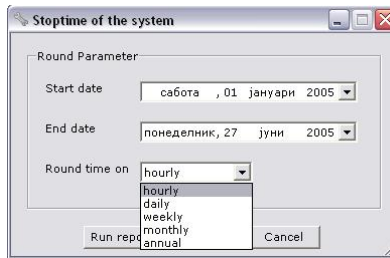
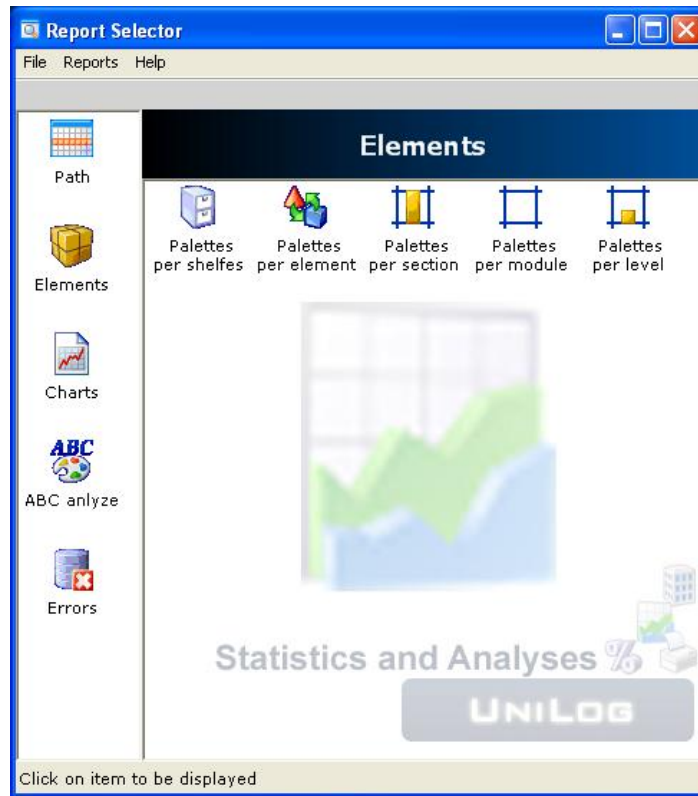

Figure 3-3 Parameter window
Figure 3-4 Palettes per elements
When some report is selected the parameter window is shown (figure 3-3). The user can easily change parameters and get the required data.
- The user interface looks like figure 3-3 and the report looks like figure 3-4;